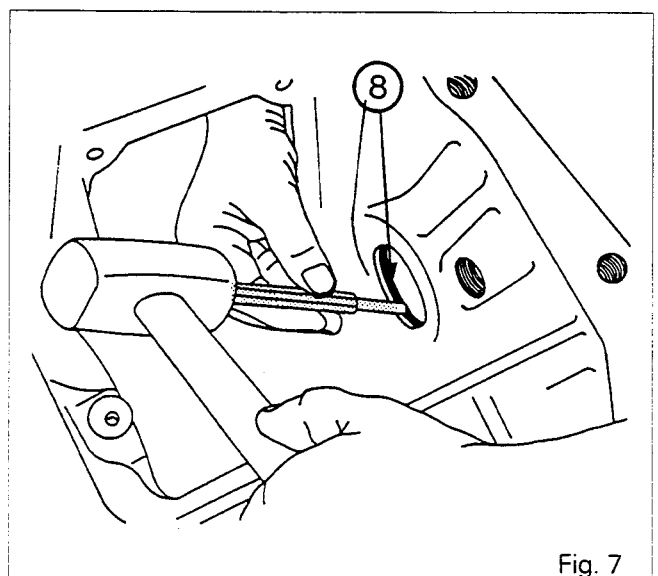

Fig. 7
19. Remove the O-ring (20).
20. Flatten tabs locking the bolts (2) retaining the lift arms..
22. Remove the washers (1).
24. Remove the lift arms (5) (11) and the thrust washers (30).
25. Remove the nylon rings (6) and the O-rings (7).
26. Remove the set screws (14) in the cam (9).
27. Withdraw the lift shaft (4) from the cover.
28. Remove the cam (9).
29. Withdraw the bushes (8) (Fig. 7).
30. Remove the cup plug (17) (2-speed PTO).